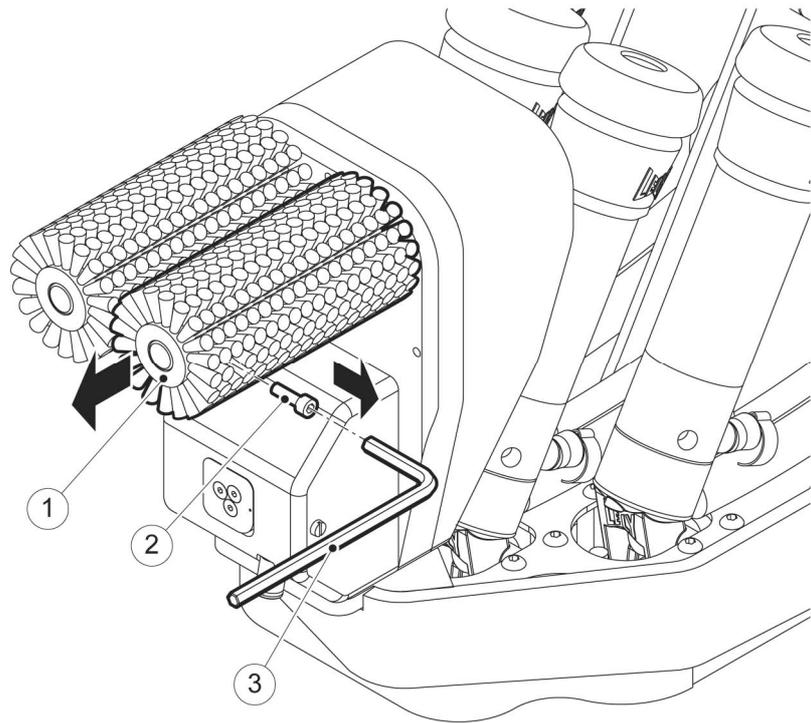

Figure 1: Replace the cleaning brushes
2. Loosen the two Allen screws (fig. 1/2).
3. Remove the two brushes (1) from the shaft.